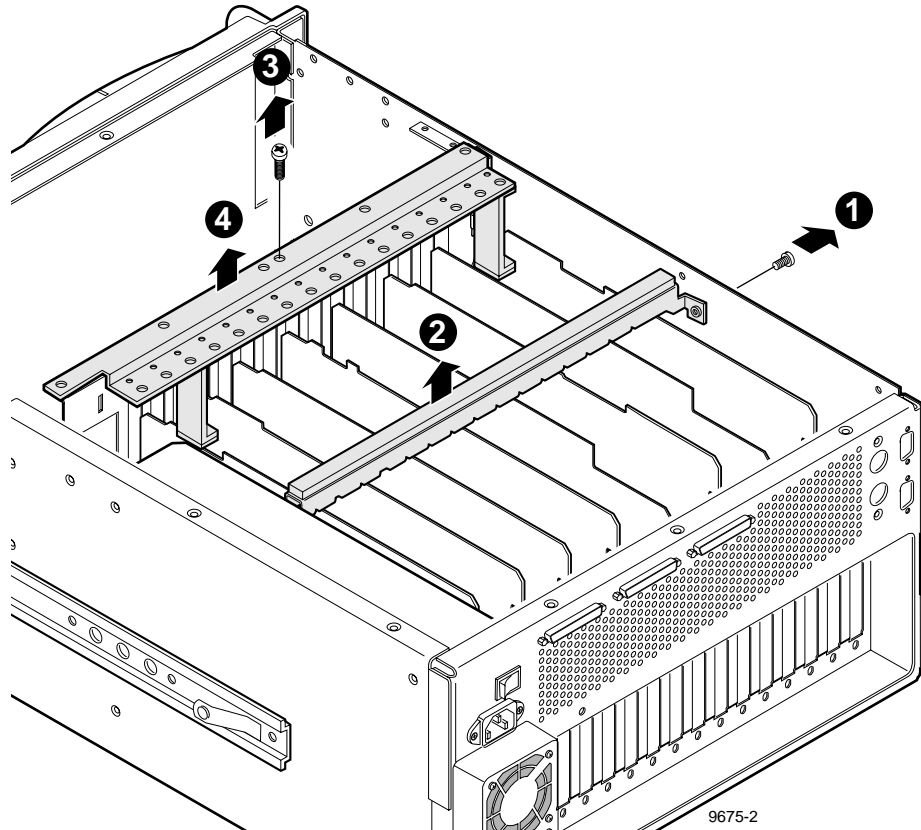

Figure 2. Removing the Circuit Board Hold-down Brackets
There are two hold-down brackets (shown in Figure 2) you must remove to access the circuit boards. Use the procedure below to remove these brackets.
1. Using a Torx tool with a T10 tip, remove the screw (❶ in Figure 2) which secures the rear board hold-down bracket.
2. Lift the hold-down bracket (❷ in Figure 2) out of the chassis and set aside.
3. Using a Torx tool with a T10 tip, remove the screw (❸ in Figure 2) which secures the front board hold-down bracket.
4. Lift the hold-down bracket (❹ in Figure 2) out of the chassis and set aside.